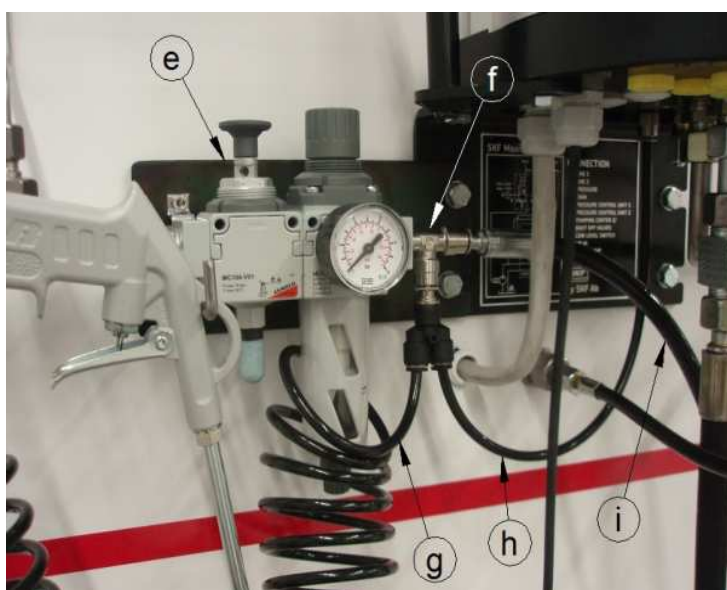

Figure 13 Pressure air connections
- 3 Connect the pressure air connector (f) delivered with the installation kit to the outlet of the pressure air regulator (e), see Figure 13.
- 4 Connect the following components to the pressure air connector: pressure air gun to connection (g); pressure air supply pipe of the SKF Maxilube pumping center to connection (h); and the pressure air supply hose of the EPB pump to connection (i), see Figure 13.